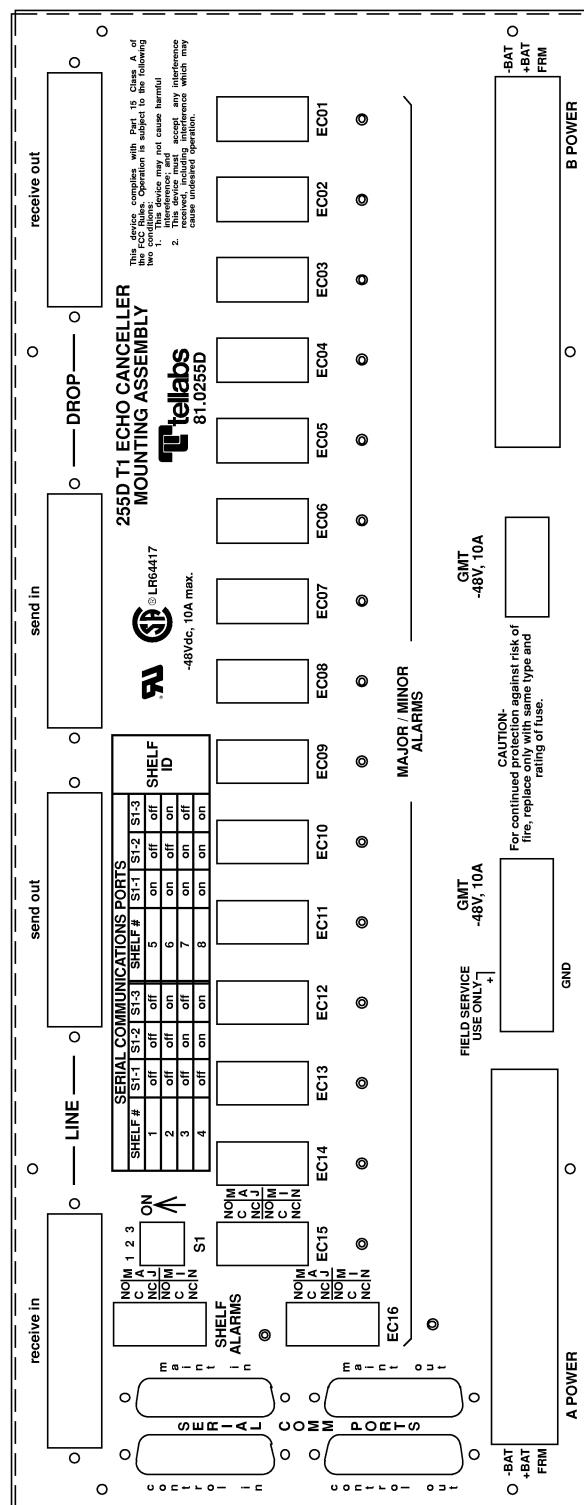

Figure 2-2 255D Backplane
- 2.4 Input power connections to the 255D must be made with 14 to 18AWG wire. The 255D accepts two –48VDC feeds, both positive ground referenced. For complete redundancy each feed must be capable of independently supplying sufficient current for the entire shelf. Power input terminals are located in the lower left and lower right corners of the mounting assembly's backplane (see Figure 2-2). To connect power to the 255D: